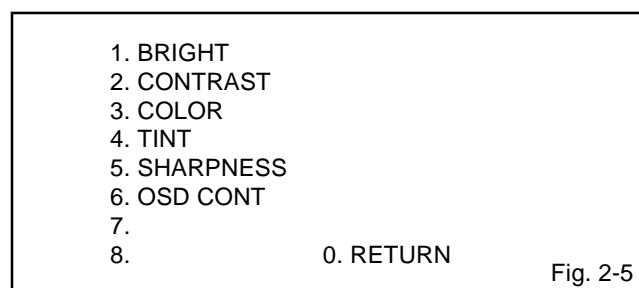

Fig. 2-5
3. Activate the adjustment mode display of **Fig. 1-1** and press the channel button **(4)** on the remote control. The **Fig. 2-5** appears on the display.
4. Activate the adjustment mode display of **Fig. 1-1** and press the channel button **(4)** on the remote control. The **Fig. 2-5** appears on the display.
1. Activate the adjustment mode display of **Fig. 1-1** and press the channel button **(4)** on the remote control. The **Fig. 2-5** appears on the display.
2. Activate the adjustment mode display of **Fig. 1-1** and press the channel button **(4)** on the remote control. The **Fig. 2-5** appears on the display.